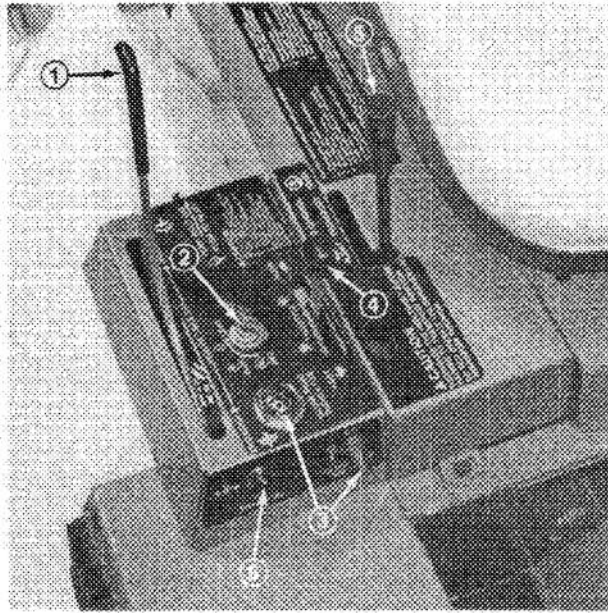

Figure 13
Temperature Switch/Gauge and Reset Button (Fig. 13) — The temperature switch/gauge registers the temperature of the coolant in the cooling system. If temperature of coolant gets too high the engine will shut off automatically. When this happens, rotate ignition key to OFF. Automatic shut-off of the engine usually results from debris on front of screen or radiator, which reduces air flow. After cleaning outside of screen and radiator or repairing some other damage, press the reset button and start the engine.
Low Oil Pressure Light/Buzzer (Fig. 13) — If oil pressure falls below a safe level, the buzzer sounds and the light glows. Stop engine and repair before resuming operation.
PTO Lever (Fig. 13) — The PTO lever has two positions: ENGAGE and DISENGAGE. Push PTO lever fully forward to ENGAGE position to start the cutting unit blades. Pull lever rearward to DISENGAGE position to stop the blades. The only time PTO lever should be in the ENGAGE position is when cutting unit is on the turf and grass is actually being mowed.
Ignition Switch (Fig. 13) — The ignition switch, which is used to start and stop the engine, has three positions: OFF, RUN and START. Rotate key clockwise — START position — to engage starter mower. Release key when engine starts. The key will move automatically to the ON position. To shut engine off, rotate key counterclockwise to the OFF position.
Glow Plug Switch and Indicator (Fig. 13) — Use to preheat engine cylinders before and during starting procedures. Push switch lever upward and hold while watching indicator. Indicator will glow red when sufficiently heated. Length of time necessary to preheat cylinders should be determined by atmospheric temperature; refer to Starting/Stopping Engine, page 14.
Throttle (Fig. 13) — Throttle is used to operate engine at various speeds. Moving throttle forward increases engine speed — FAST; rearward decreases engine speed — SLOW. The throttle controls the speed of the cutter blades and, in conjunction with traction pedal, controls ground speed of the engine.
Hydraulic Lift Lever (Fig. 13) — The hydraulic lift lever has three positions: FLOAT, TRANSPORT and RAISE. To lower cutting unit to the ground, move lift lever forward into notch in seat cover — FLOAT. The FLOAT position is used for mowing and when machine is not in operation. To raise cutting unit, pull lift lever rearward to the RAISE position. After cutting unit is raised, allow lift lever to move to the TRANSPORT position. Cutting unit must be raised when driving from one work area to another.
1. Ensure parking brake is set, PTO lever is in OFF position and lift lever is in TRANSPORT or FLOAT position (Fig. 13). Remove foot from traction pedal and insure it is in neutral.
2. Move throttle control (Fig. 13) to full FAST position.
4. Push glow plug switch to ON position (Fig. 13) and hold until indicator glows red. Continue to hold switch in position for suggested interval and turn key in key switch to START position. Release glow plug switch after engine starts and allow key to return to RUN position. Move throttle control to SLOW position.
5. Turn key in key switch to START position (Fig. 13). Release key immediately when engine starts and allow it to return to RUN position. Move throttle control to SLOW position.